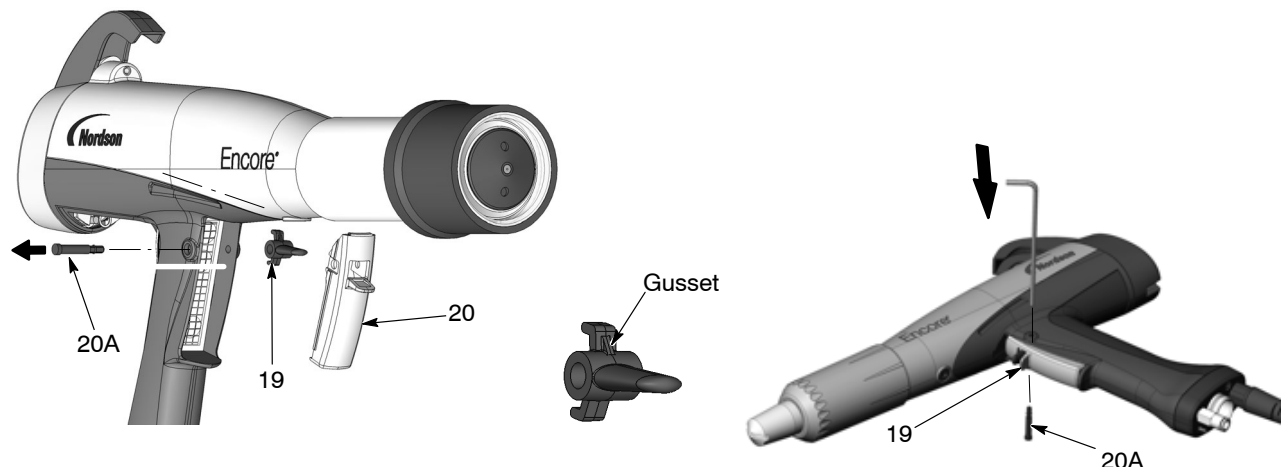

Figure 6-7 Removing the Axle and Trigger from the Handle
3. See Figure 6-7. Place the spray gun on a solid surface so the small diameter end of the trigger axle (20A) is oriented upward.
5. Remove the spray trigger (20), actuator (21, not shown), and purge trigger (19) from the handle.